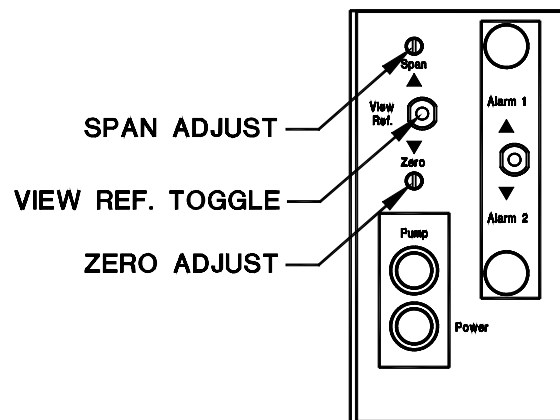

Figure 28: Calibration Controls
2. Locate the View Ref. toggle switch. See Figure 28